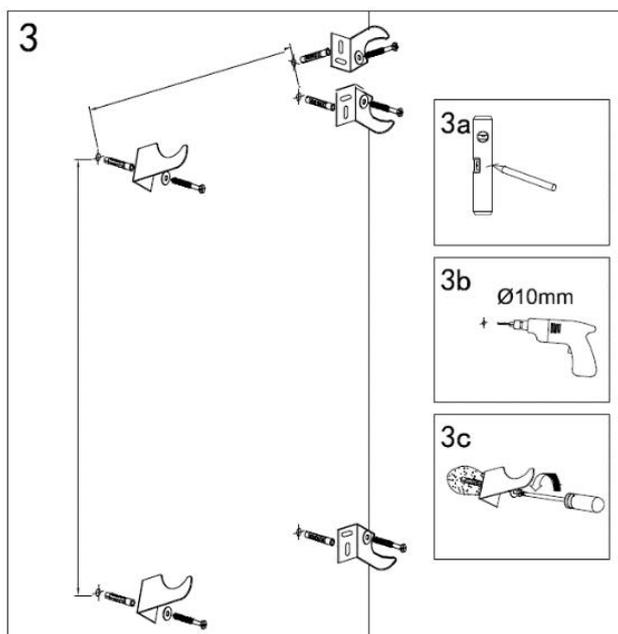
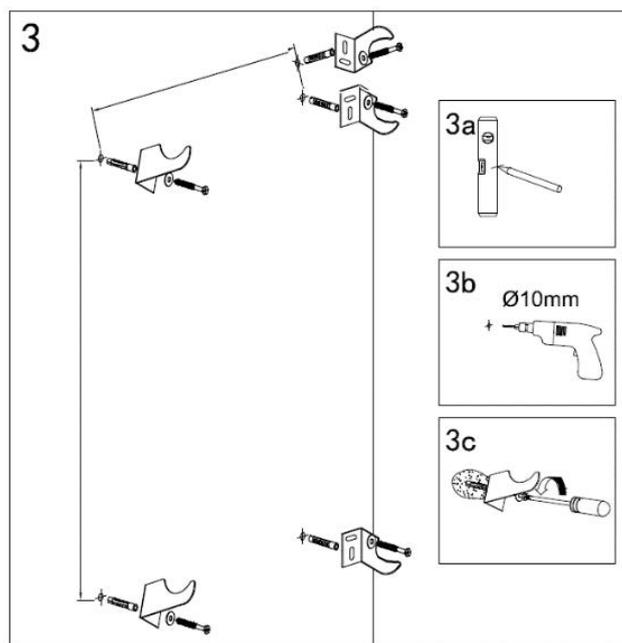

Figure 4 | Fixing the wall brackets
Figure 5 | Fixing the wall Brackets
- a. Use the template provided in the box to mark the bracket positions on the wall (see Figure 4).
- b. Using a 10mm drill bit, drill four holes in the marked locations and push the Wall Plugs (D) inside.
- c. Position the Brackets (A, B) over the holes and fix in place using the Washers (E) and Wall Screws (F). The Brackets (A, B) should slot between the bars with their mounting plates facing together: with the Left Brackets
- (A) on the left and the Right Brackets (B) on the right as you face the radiator (as seen in **Figure 4**).
4. If you require your Left (A) and Right (B) Brackets to be spaced closer together or farther apart, for example when affixing to studs in a stud wall, you can choose custom Bracket positions.
- b. The Brackets (A, B) should slot between the bars with their mounting plates facing together: with the Left Brackets (A) on the left and the Right Brackets (B) on the right as you face the radiator.
- c. Use a tape measure, spirit level and the positions decided in step **a** above to mark the Bracket positions on the wall (see **Figure 5**).